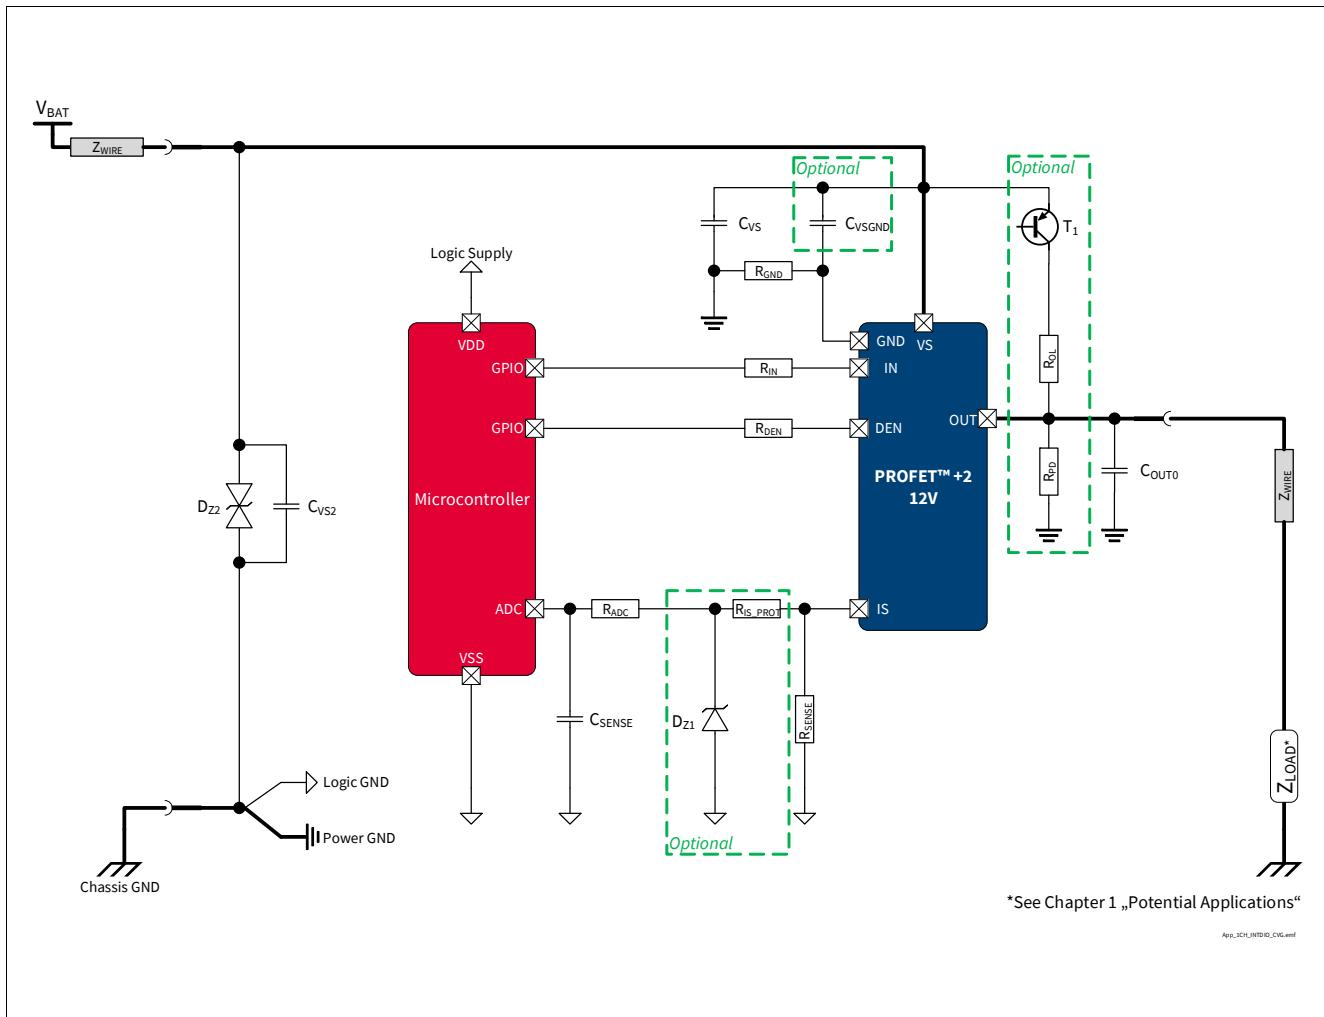

Figure 37 **BTS7008-1EPP Application Diagram**
1.10 , 2020-12-14	<p>Typo fixed (PROFET™+2 → PROFET™ +2)</p> <p>Figure 1, Figure 16, Figure 17, Figure 18, Figure 20, Figure 21, Figure 22, Figure 25, Figure 29, Figure 30, Figure 34, Figure 37 updated</p> <p>Chapter 1, Chapter 6.1, Chapter 6.1.3, Chapter 6.1.4, Chapter 8.2, Chapter 9.2.2 updated</p> <p>Chapter 8.4.1 updated (typo fixed)</p> <p>P_7.4.5.1, P_7.4.5.2, P_7.4.5.3, P_7.4.5.4, P_7.4.5.6, P_7.4.5.7 updated (added in Note or Test Condition: See Figure 15)</p> <p>P_8.6.4.1 updated (added in Note or Test Condition: See Figure 26)</p> <p>P_8.6.4.2 updated (added in Note or Test Condition: See Figure 27)</p> <p>P_9.6.0.6 updated (Parameter: SENSE Operative Range for k_{ILIS} Operation ($V_S - V_{IS}$) → Saturation Voltage in k_{ILIS} Operation ($V_S - V_{IS}$))</p> <p>P_9.6.0.7 updated (Parameter: SENSE Operative Range for Open Load at OFF Diagnosis ($V_S - V_{IS}$) → Saturation Voltage in Open Load at OFF Diagnosis ($V_S - V_{IS}$))</p> <p>P_9.6.0.8 updated (Parameter: SENSE Operative Range for Fault Diagnosis ($V_S - V_{IS}$) → Saturation Voltage in Fault Diagnosis ($V_S - V_{IS}$))</p>
1.04 , 2019-10-15	<p>P_8.7.21.1, P_8.7.21.7, P_8.7.21.8 updated (added in Note or Test Condition: link to Figure 24)</p> <p>P_7.5.20.5 updated (added in Note or Test Condition: see Figure 18)</p> <p>P_7.5.20.12 updated (added in Note or Test Condition: see Figure 20; deleted unnecessary space in Symbol: $dVOUT / dt \rightarrow dVOUT / dt$)</p> <p>P_8.7.21.6 updated (added in Note or Test Condition: see Figure 25)</p> <p>P_9.7.20.1 updated (added in Note or Test Condition: see Figure 32)</p> <p>Figure 1, Figure 37 updated</p> <p>P_4.3.0.7 added</p> <p>Table 22 updated</p> <p>Chapter 5.1 updated (added: see Chapter 10 for the complete application setup overview)</p> <p>Chapter 9.2 updated ($2 \text{ V} \rightarrow V_{DS(OLOFF)}$)</p> <p>General: updated (ReverSave™ → ReverseON)</p>
1.01 , 2018-06-14	Page numbering corrected Figure Application Diagram, Figure 29, Figure 37 updated